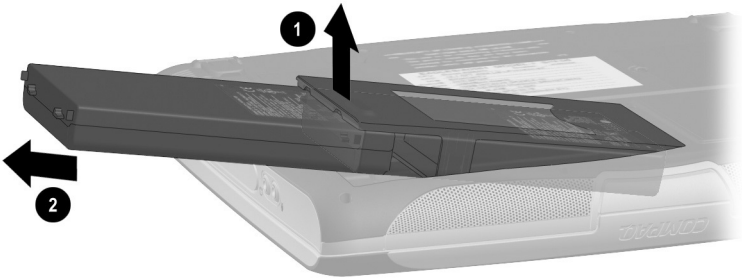

Figure 5-3. Removing the Battery Pack
- c. Lift and hold the battery bracket open as far as it will open ❶ (Figure 5-3).
- d. Grasp the edges of the battery pack and slide it to the left to remove it ❷.